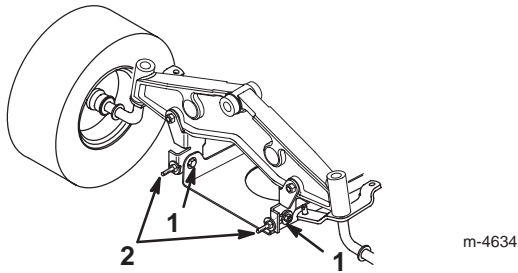

Figure 51
- Slightly loosen the front pivot plate mounting bolts (Fig. 51).
- Rotate the locknuts on the eyebolts to change the adjustment (Fig. 51).
- After adjusting both of the eyebolt locknuts evenly, check the front-to-rear slope again. Continue adjusting the eyebolts until the front blade tip is 0 to 3/8 in. (0 to 9 mm) lower than the rear blade tip (Fig. 51).
- When the front-to-rear slope is correct, tighten the pivot plate mounting bolts (Fig. 51).